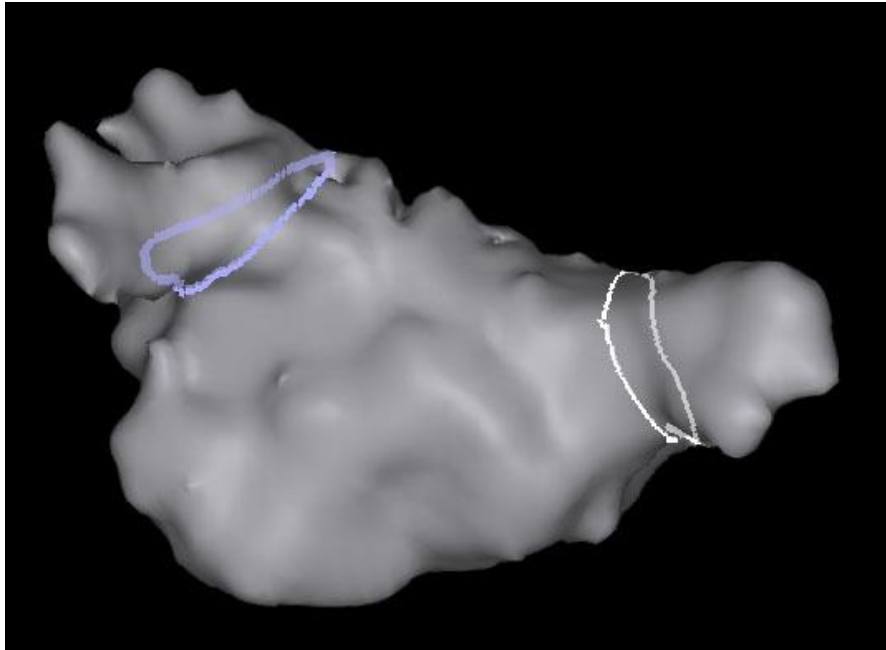

Figure 10-35 Line Drawing
- 3) Select a line and click the right mouse button to pop up a right-click menu, where you can edit the color, width or delete the line (Figure 10-35).